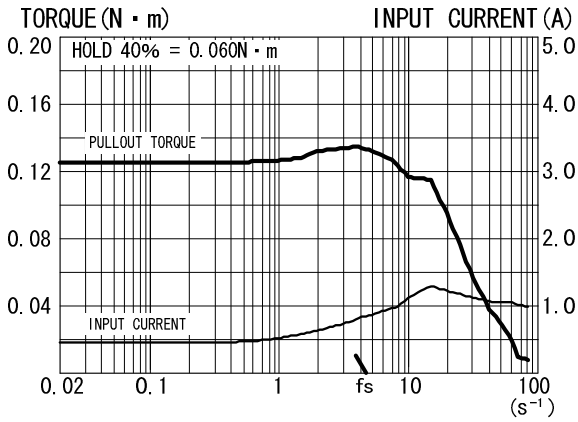

Fig. 2
| | PK544-A (B) | 0.72 | 0.75 | F | Fig. 2 |